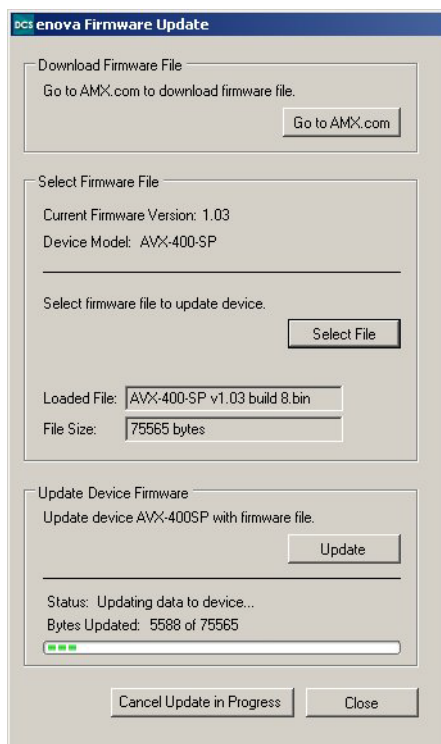

FIG. 35 Enova Firmware Update Window
You can access the Firmware Update tool by selecting **Firmware Update** from the File menu in the DCS software. Selecting this option opens the Enova Firmware Update window (FIG. 35).
1. From the File menu, select **Firmware Update**. The Enova Firmware Update window opens (FIG. 35).